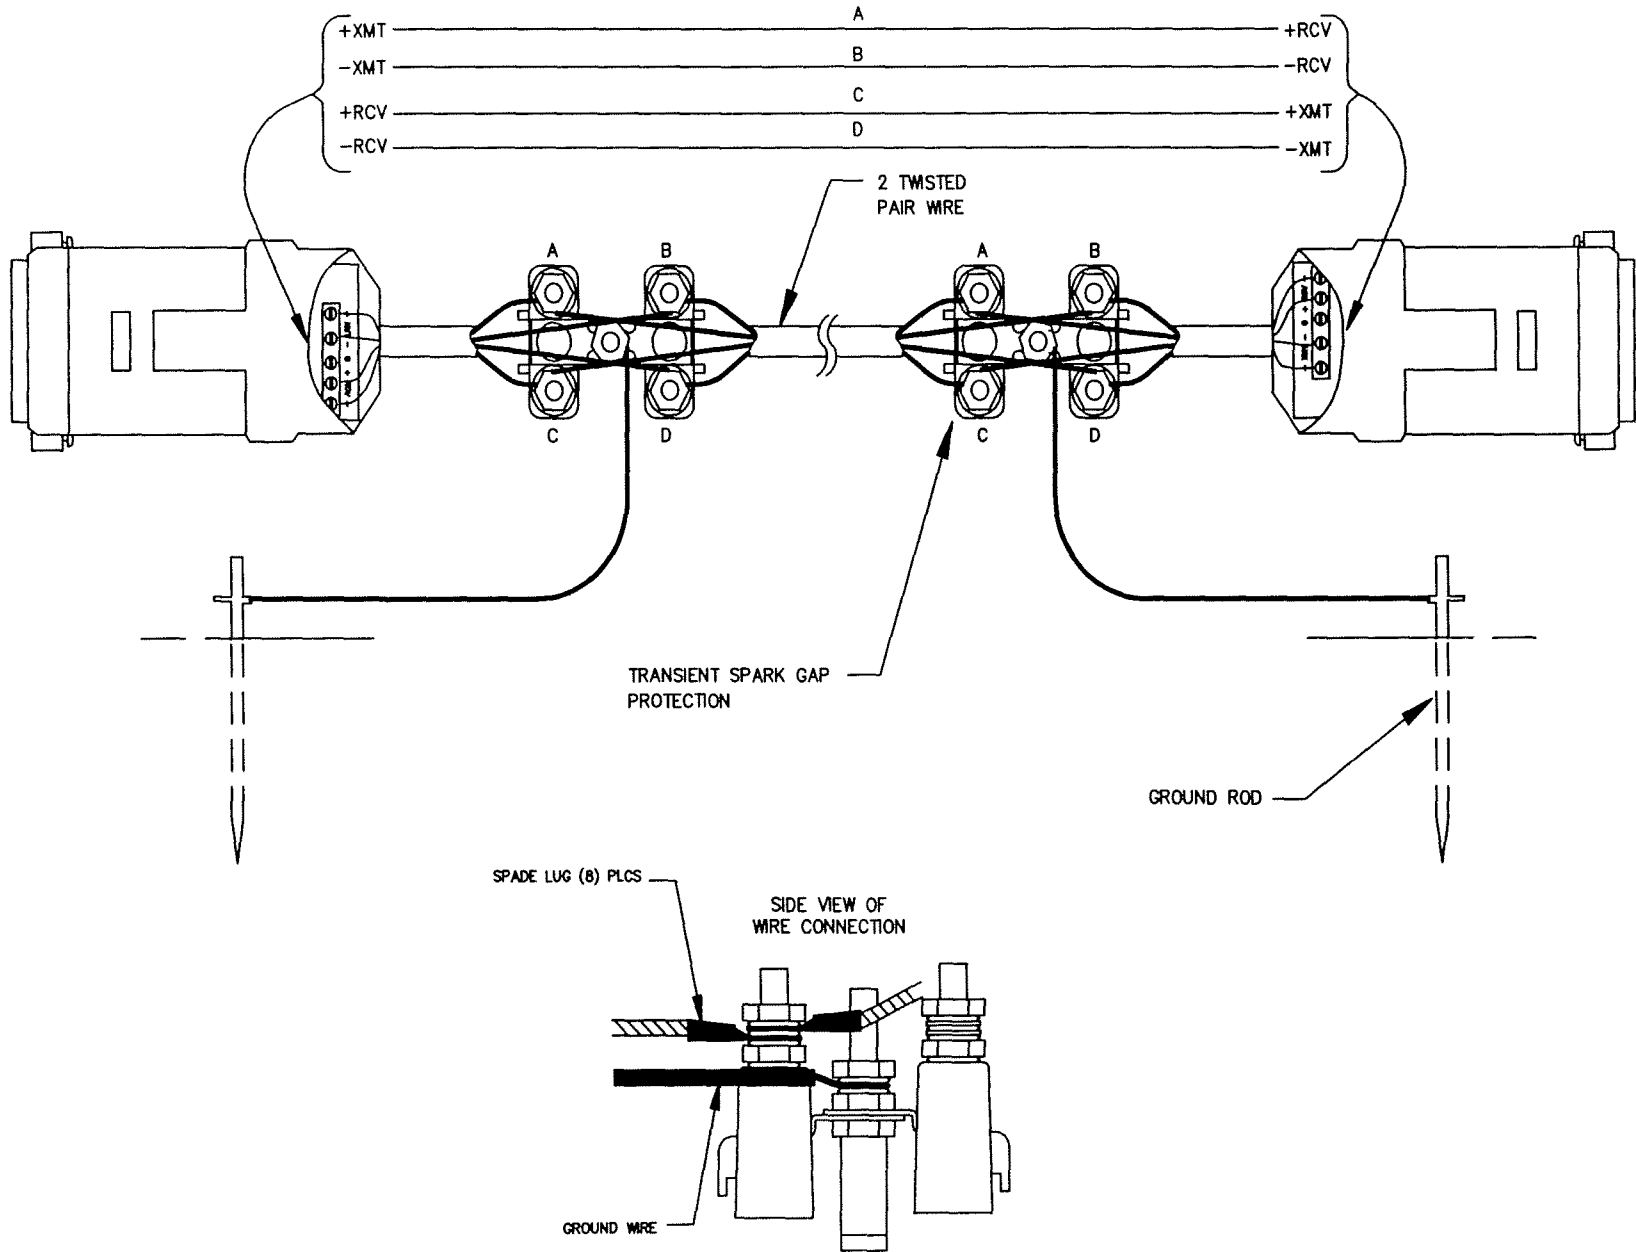

FIGURE 9-5. SRM-6A Wiring
4. Remove the backshell from the SRM-6A. Cut a 12" long piece of modem cable and connect it to the SRM-6A as shown in Figure 9-5. Fasten the cable to the strain relief tab with a cable tie, then replace the backshell. Connect the serial port of the SRM-6A to the SC932 and secure the SRM-6A to the mounting bracket using the velcro straps.
5. Route the cable previously attached to the SRM-6A, and the modem cable (from the other SRM-6A) to the 6361. Connect the cables as shown in Figure 9-5. Strain relief the cables to the side of the enclosure using cable ties and tabs
2. Cut a piece of modem cable long enough to reach from the 5563 to the computer. Remove the backshell from the SRM-6A and connect the cable as shown in Figure 9-5. Fasten the cable to the strain relief tab with a cable tie, then replace the backshell. Connect the serial port to the computer's serial port using a SC25PS cable; 9-pin ports also require PN 7026 adaptor cable.
3. Route the cable from the remote SRM-6A, and the cable from the SRM-6A attached to the computer to the 5563. Connect the cables as shown in Figure 9-5. Strain relief the cables next to the 5563 using cable ties and tabs.